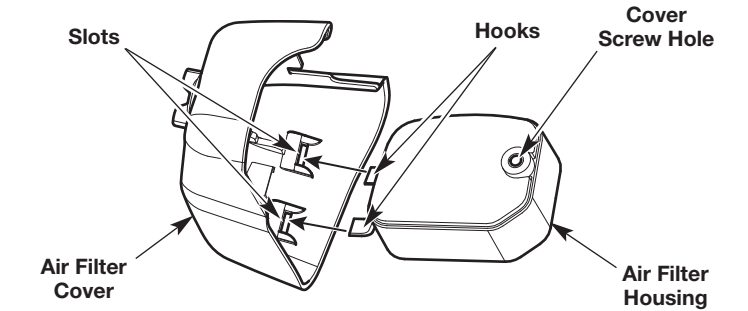

Fig. 30
7. Insert the hooks on the air filter housing into the slots on the air filter cover (Fig. 30).
8. Swing the air filter cover to the right and align the cover screw with the cover screw hole (Fig. 30). Tighten the cover screw to secure the air filter cover.